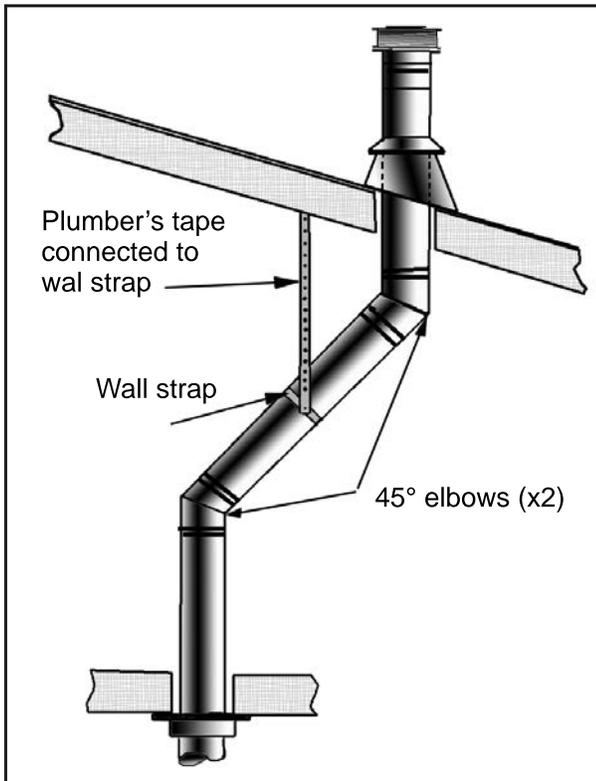
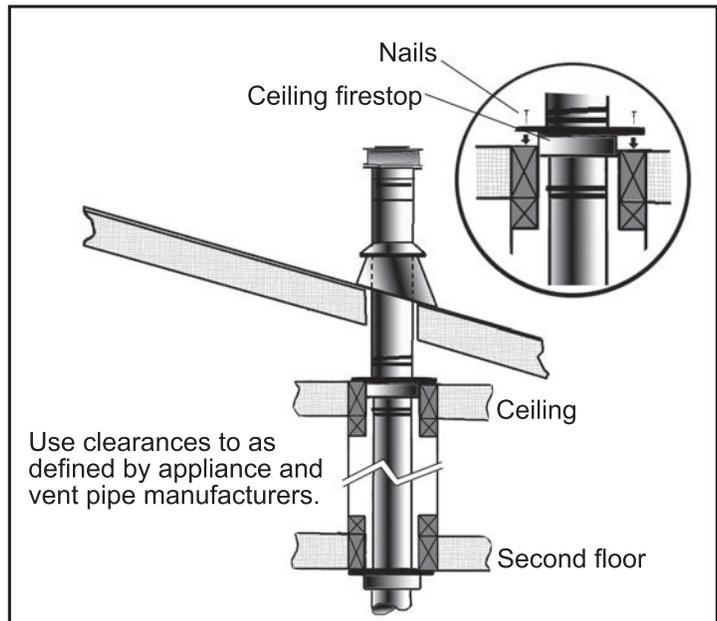

Figure 28: Use of Wall Straps.
Figure 29: Multi-Story Vent Pipe Installation
- (1) If an offset is necessary in the attic to avoid obstructions, it is important to support the vent pipe every **3' (914 mm)**, to avoid excessive stress on the elbows, and possible separation. Wall straps are available for this purpose (see Figure 28).
- (2) When ever possible, use 45° degree elbows instead of 90° degree elbows. The 45° degree elbow offers less restriction to the flow of flue gases and intake air.
- (3) For multi story installations; a ceiling firestop is required at the second floor, and any subsequent floors (see Figure 29). The opening should be framed to **10" (254 mm) x 10" (254 mm)** inside dimensions, in the same manner as shown in Figure 21.
- (4) Any occupied areas above the first floor, including closets and storage spaces, which the vertical vent passes through, must be enclosed. The enclosure may be framed and sheet-rocked with standard building materials. However consult the appliance manufactures installation instructions for the minimum allowable clearance between the outside of the vent pipe, and the combustible surfaces of the enclosure. Do not fill any required air spaces with insulation.